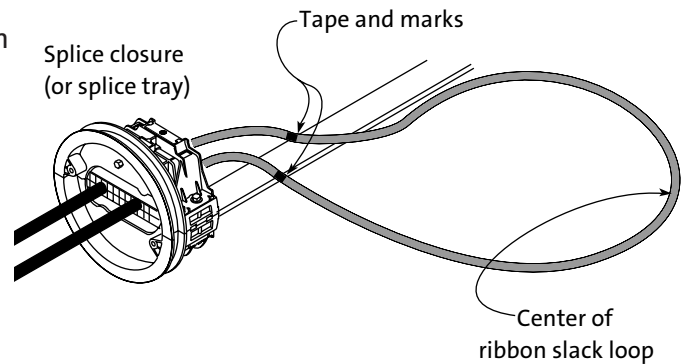

Figure 22
Step 3: Wrap the ribbon at the marks with vinyl tape to prevent excessive breakout of the ribbon (Figure 22).